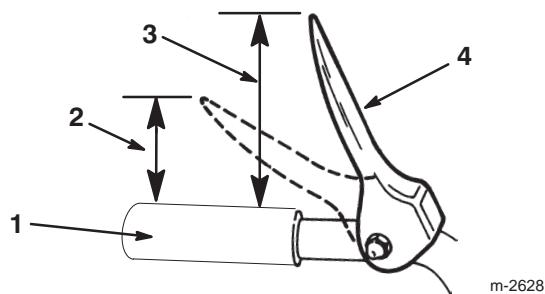

Figure 10
5. Check the distance between the top of the handgrip and the bottom of the auger/impeller drive control lever. The distance should be approximately 4 inches (10.2 centimeters) as shown in Figure 10.
Note: The amount of force needed to compress the lever increases noticeably when you remove the slack from the auger/impeller drive belt (approximately one-half of the lever movement). The adjustment is correct when the force *begins* to increase and the distance between the top of the handgrip and the bottom of the auger/impeller drive control lever is 2 inches (5 centimeters) as shown in Figure 10.